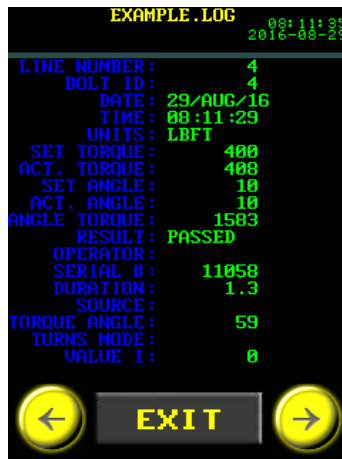
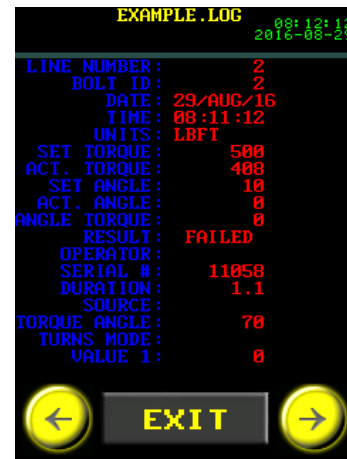

Figure 4.6-2: Passed Cycle
Figure 4.6-3: Failed Cycle
**Note:** The log records will be green for passed cycles (Figure 4.6-2) or red for failed or invalid cycles (Figure 4.6-3).